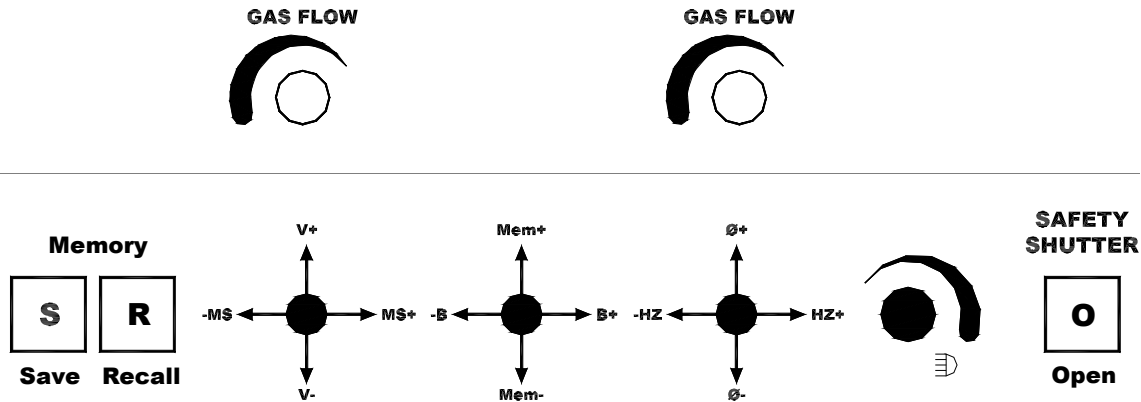

**Figure 12**
**(1) Main Switch/Emergency Off:** This switch turns on or off the line voltage of the product. It directly powers the illumination within the welding chamber/area and the supply voltages. This main switch also meets the emergency-off function. It can be turned “off” (position “0”) in case of emergency without preceding actions. The device will be totally disconnected from the line (independent from the polarity of the main plug).
**(2) Key Switch:** The laser power supply and, as a consequence, all laser functions, can only be switched “on” with the aid of the key switch.
(3) **Keypad (Figure 12):** See the following section for a description.